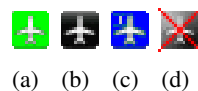

Figure 2.4-10: Attitude Mode icons
- an optional icon indicating the current heading/attitude mode, see Figure 2.4-10: